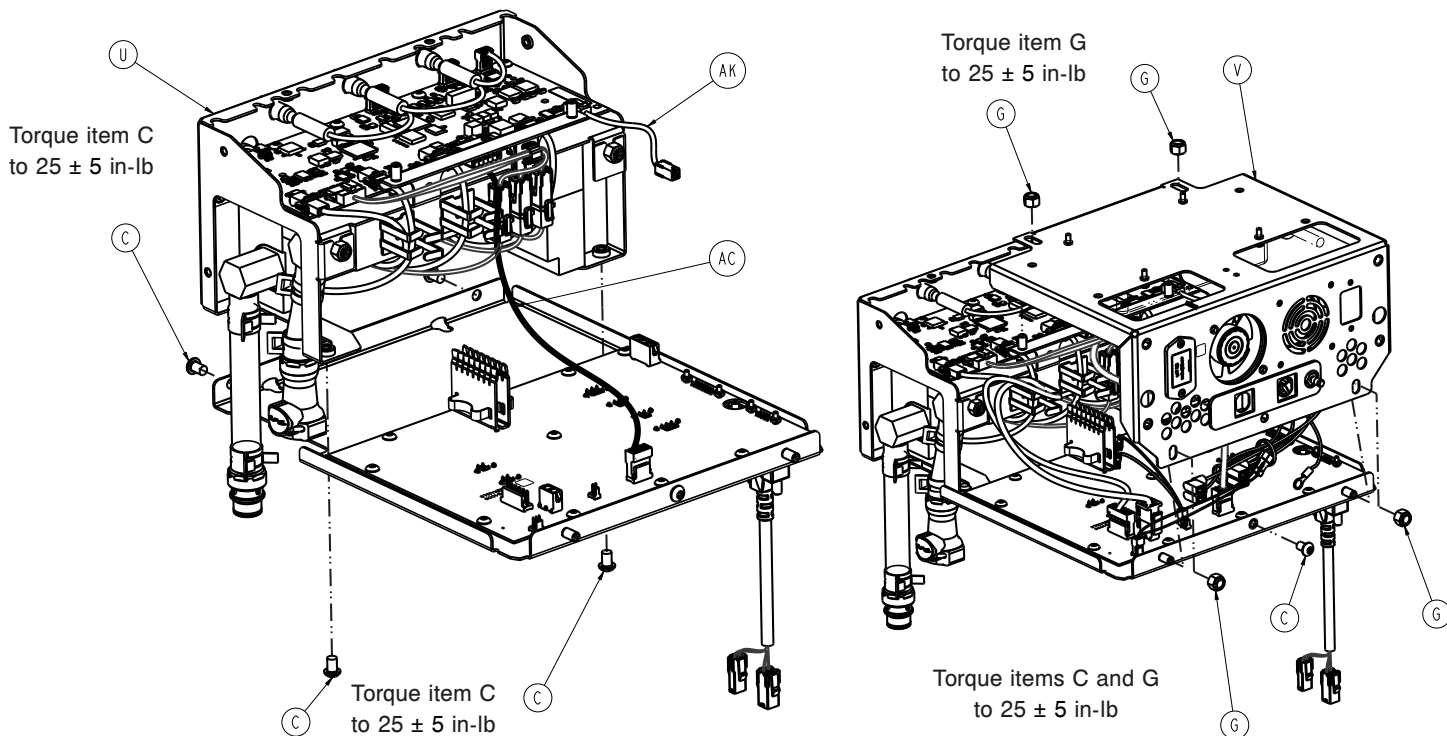

Figure 36 – Manifold assembly
17. Using a T27 Torx driver, remove the four screws (C) that secure the manifold assembly (U) to the control assembly (Figure 36). Save the screws.